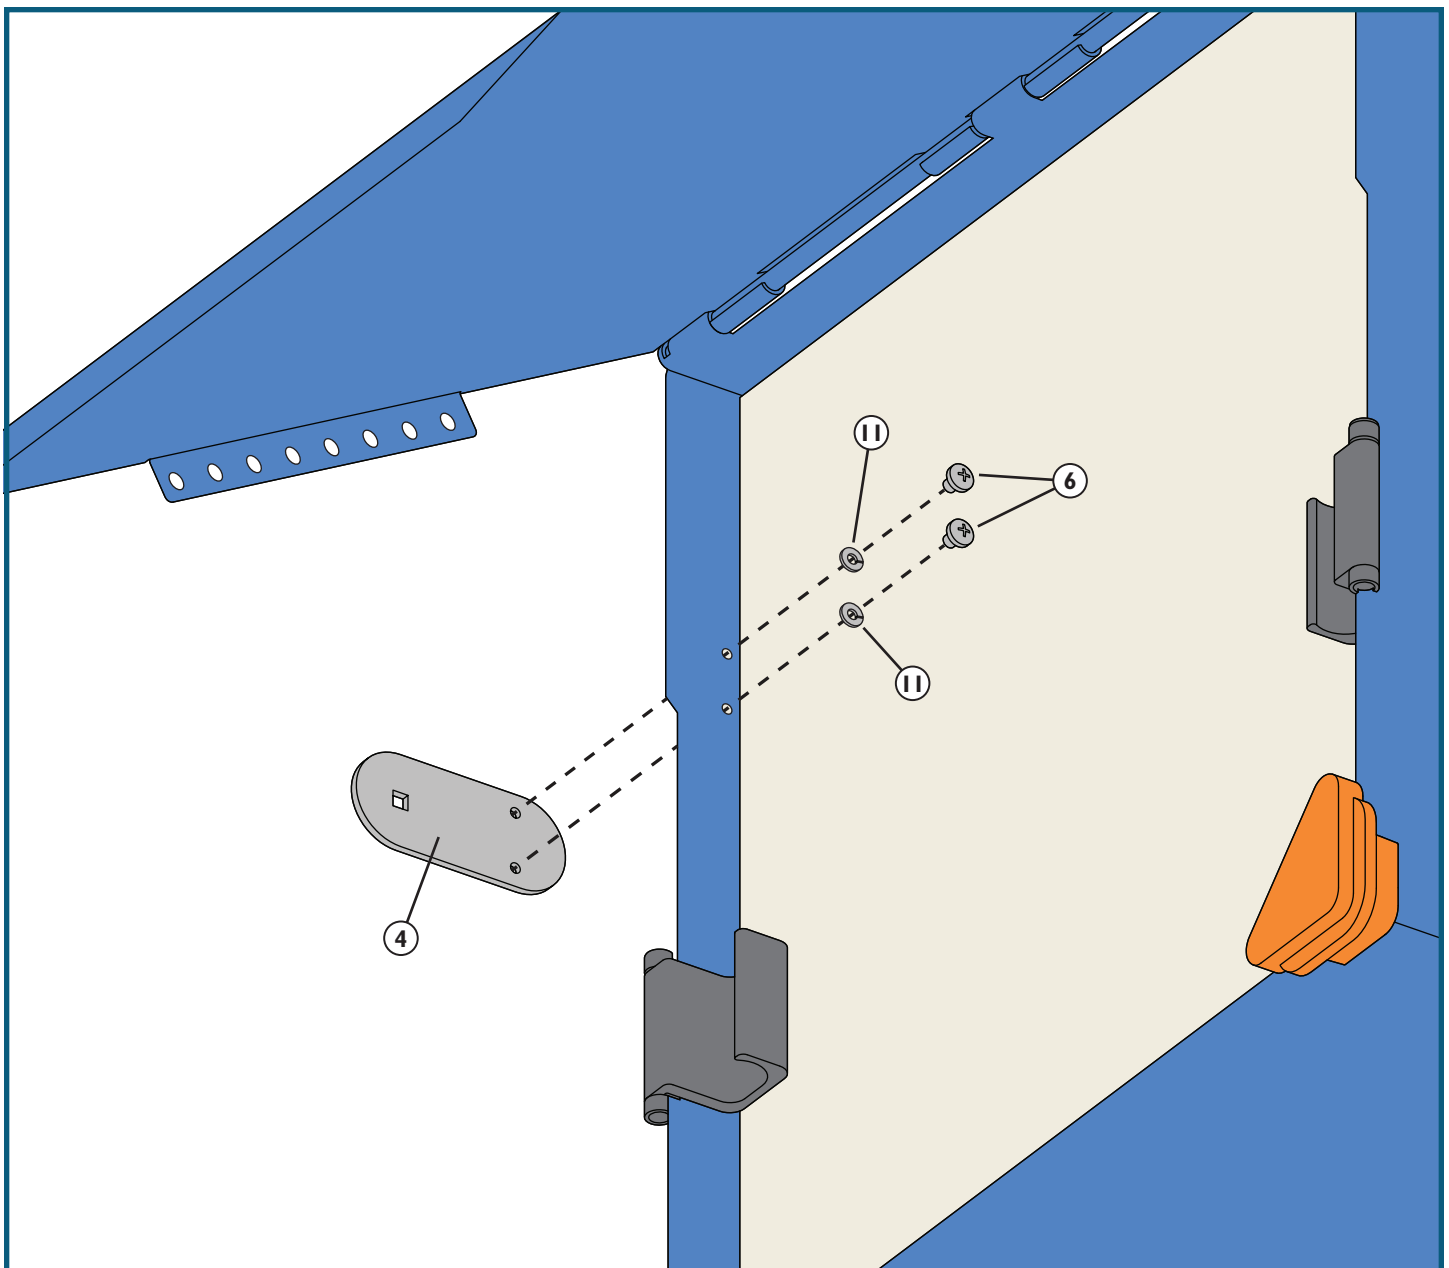

Fig. 3
Attach the Baffle Bracket with two M4 x 0.7 x 5mm Round-Head Screws (6) and two M4 Lock Washers (7) driven from inside the lip of the unit; the Baffle Brackets have tapped holes to accept the screws. **Fig. 3.**
2. Position the Baffle Arm (5) so one end is against the inside face of the Baffle Bracket (4). Align the holes and connect the two pieces by inserting an M6 x 1.0 x 16mm Carriage Bolt (9) from the outside face of the Baffle Bracket and threading on an M6 Washer Nut (11).